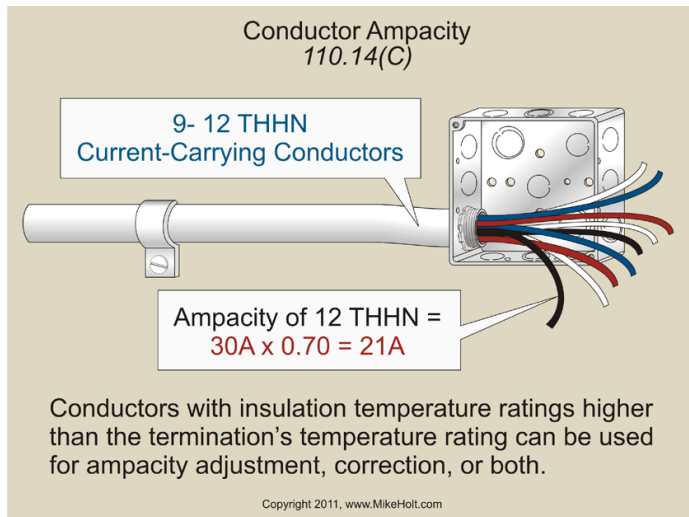

Figure 110-13
(C) Temperature Limitations (Conductor Size). Conductors are to be sized using their ampacity from the insulation temperature rating column of Table 310.15(B)(16) that corresponds to the lowest temperature rating of any terminal, device, or conductor of the circuit. **Figure 110-13**